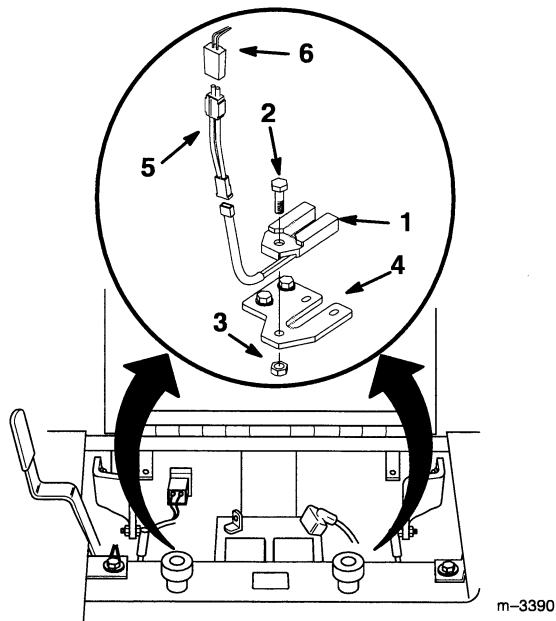

Figure 2
1. Install the new interrupter switch with the bolt and nut removed previously (Fig. 2).
4. Connect the switch connector to the harness adapter (Fig. 2).
5. Connect the harness adapter to the wire harness connector (Fig. 2).